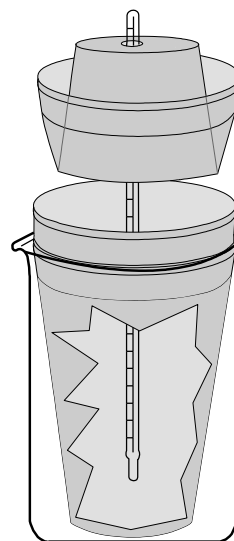

Figure 1
1. Obtain a dry Styrofoam calorimeter with a Styrofoam cap [Figure 1]. Place it in an appropriately sized beaker for support.